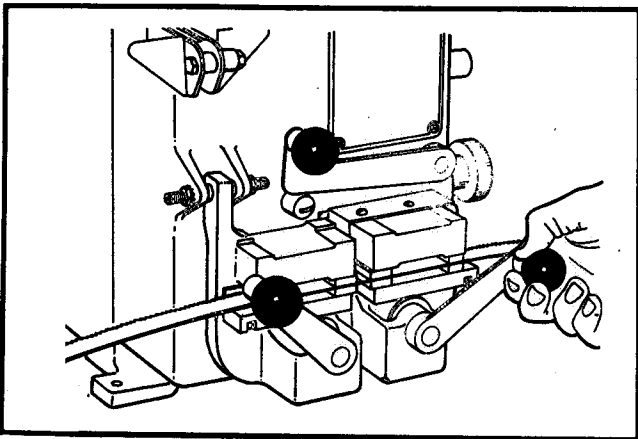

FIG. 7. CLAMPING BAND IN WELDER JAWS.
- (1) Place reset lever in "weld" position.
- (2) Place one band end in the left jaw with teeth to the rear against the line-up surface. Keep the band end in the gap center between the two jaws. Clamp the left jaw.
- (3) Insert other band end in right jaw with teeth to the rear against line-up surface, and band ends butted in jaw gap center. Clamp the right jaw. See Fig. 7.